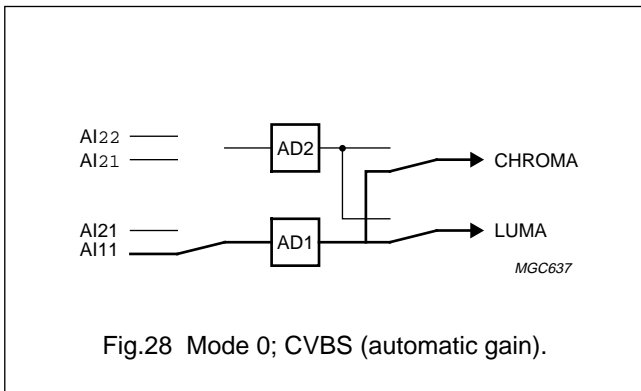

Fig.28 Mode 0; CVBS (automatic gain).
**Table 11** Analog control 1 (Mode select; see Figs 28 to 35) SA 02, D2 to D0